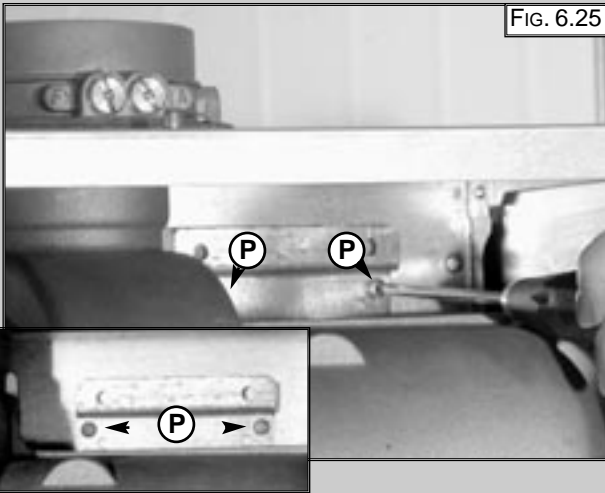

FIG. 6.25
4. Unscrew the two screws "P" (FIG. 6.25);